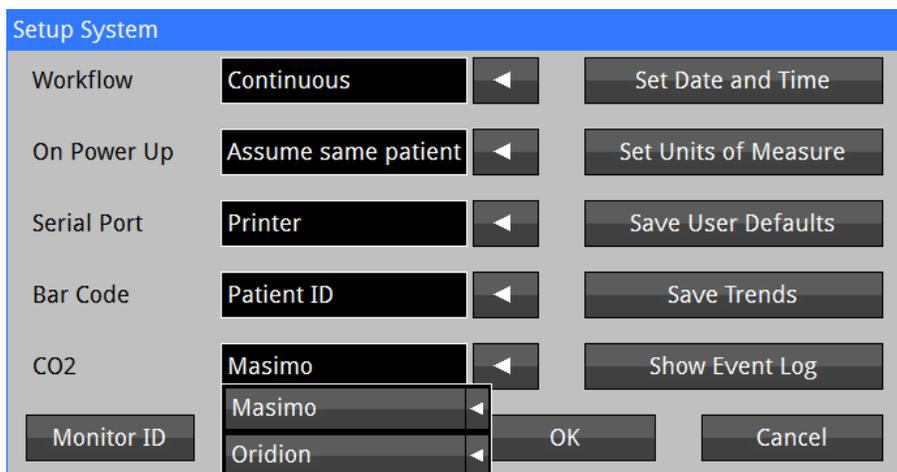

Figure 24: System Setup screen (Masimo CO₂ Enabled)
- d) Touch the  on the **CO₂** line (Refer to Figure 24 below); **Note** Masimo may be the only selection.